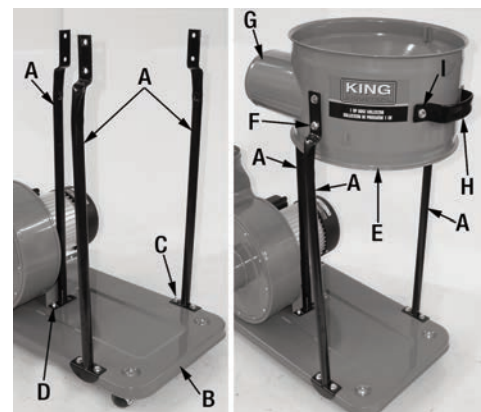

FIGURE 8
4. Install two of three support brackets (A) Fig.8 to the base (B) using 2 flange head hex. bolts (C) for each of the support brackets. Install third support bracket (A) to the base using a motor support flange head hex. bolt (D) as shown. Hand tighten only at this point.
5. Install filtration housing (E) Fig.8 to the three support brackets (A) using 2 flange head hex. bolts (F) on each support. Make sure the hose opening (G) faces the ventilation housing opening. Tighten all flange head hex. bolts at this time using the supplied wrench.
6. Install handle (H) Fig.8 to the filtration housing (E) using two flange head hex. bolts (H). Tighten using the supplied wrench.